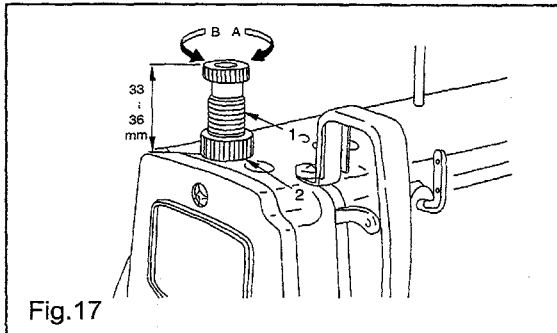

Fig.17
11. PRESSER FOOT PRESSURE(Fig.17)